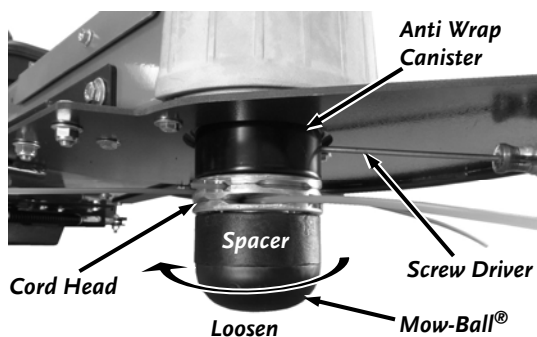

Figure 31
4. Align the hole in the Anti Wrap Canister with the hole in the internal housing at the location shown (**Figure 31**).